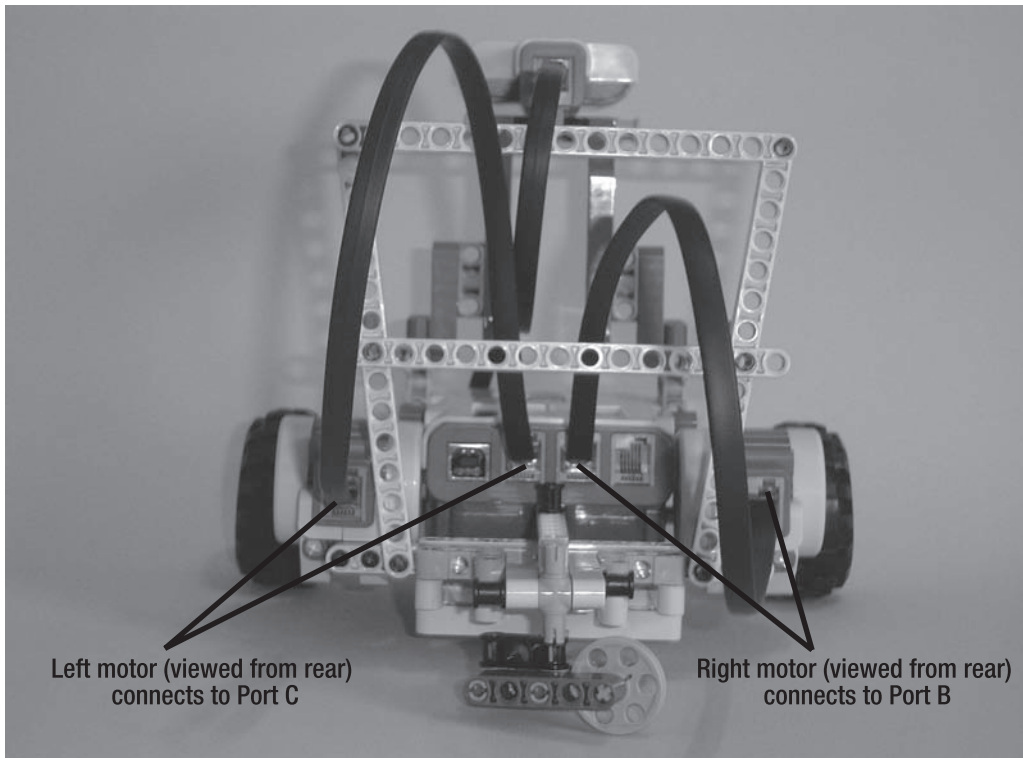

Figure 3-41. *The motors are connected to Port B and Port C.*
2. Looking at the back of the ExploroBot (see Figure 3-41), connect a cable from the left motor to Port C.
3. Connect a cable from the right motor to Port B (see Figure 3-41).